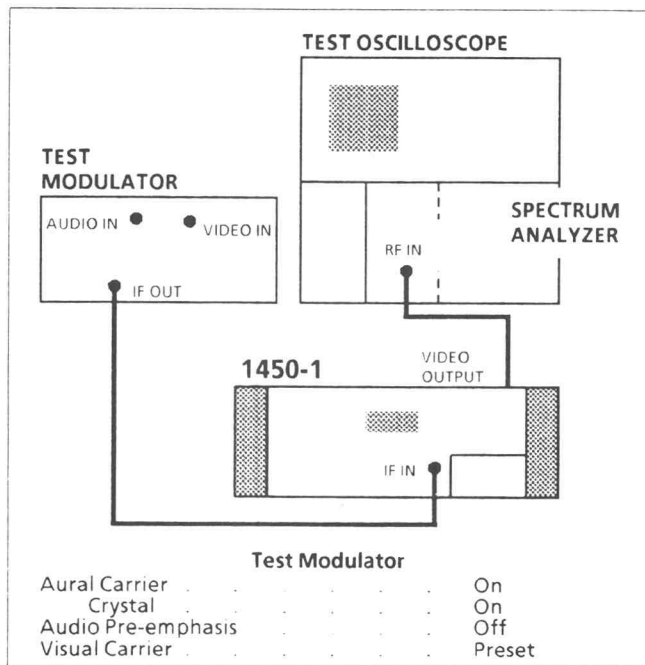

Fig. 4-35. Setup for checking Aural Intercarrier.
- a. Connect and set the test equipment as shown in Fig. 4-35.